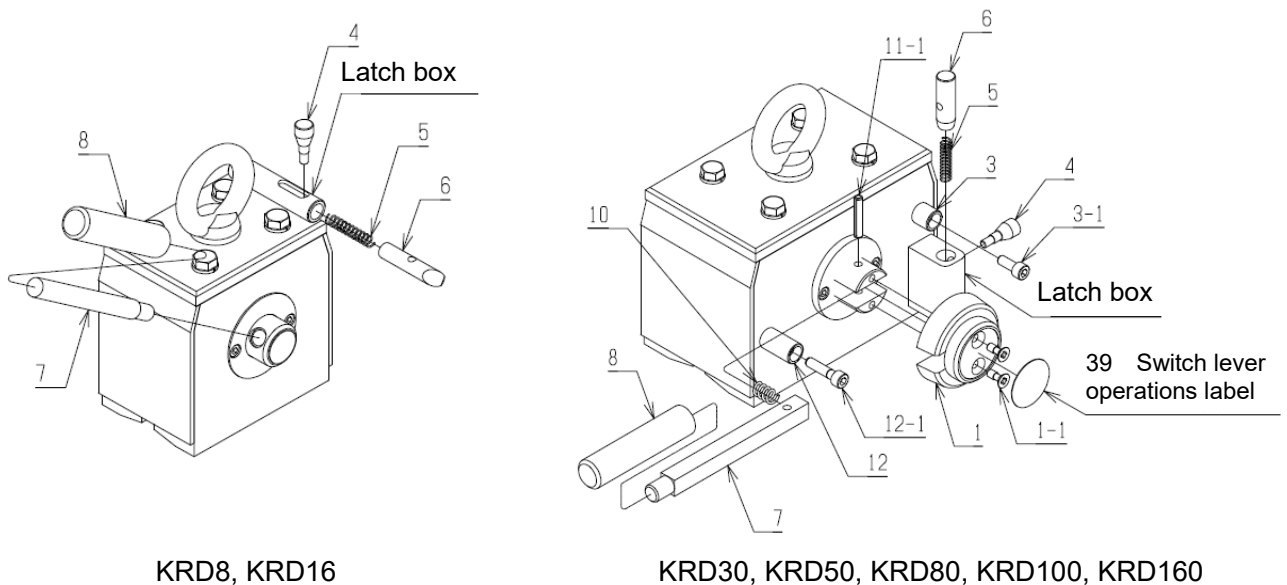

Figure 12-1 Replacement parts
- Perform parts replacement operations with reference to Figure 12-1.
- (1) Switch lever